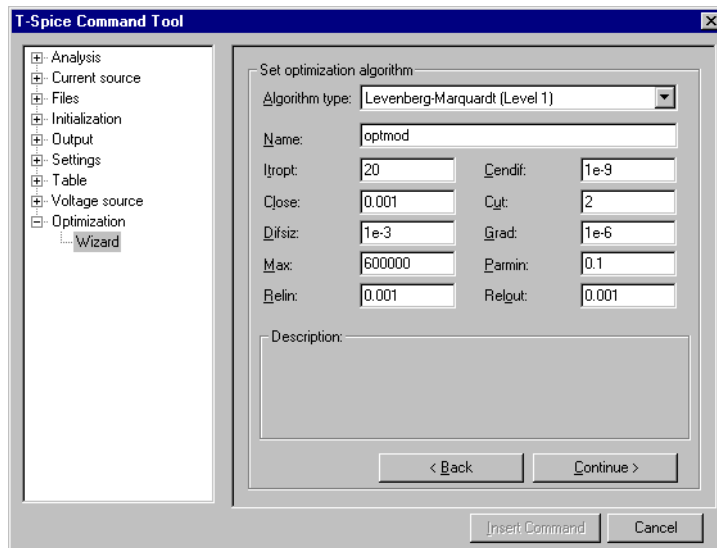

Figure 97: Customizing the optimization algorithm
- ☑ In the **Name** field, type **optmod**. For all other values, accept the defaults (Figure 97). When you are finished, the **T-Spice Command** tool dialog will look like the following: